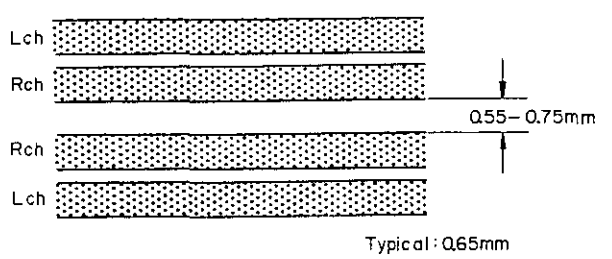

Fig. 4.21
- (j) Immerse the recorded tape in a magnetized developing solution. In turn, check to insure that the recording head tracks across the center are separated with a distance of 0.55 to 0.75 mm (typically 0.65 mm) as illustrated in Fig. 4.21.